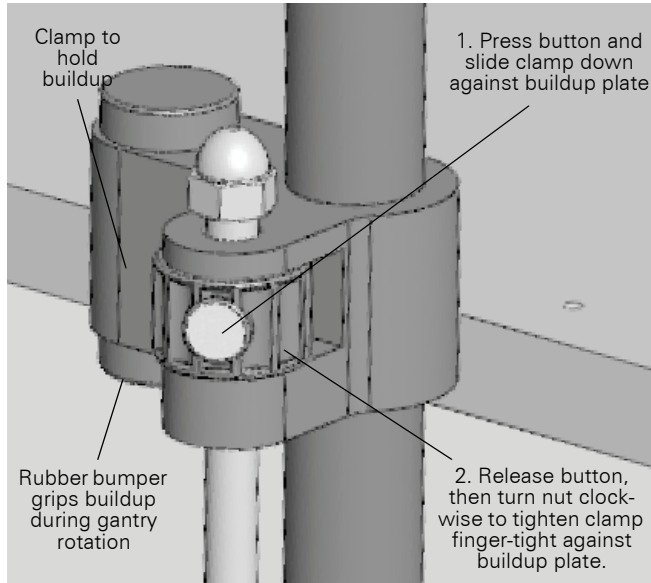

Figure 5. Clamping Buildup to the Instrument
- 2 On each of the four sliding clamps, press the button in and then slide the clamp down until the rubber foot contacts the top buildup plate (Figure 5).